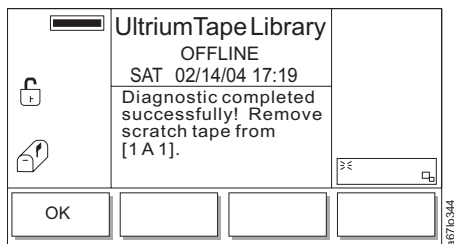

Figure 4-186. Command Now Complete Screen
11. When the tape is returned to the I/O Station, the Command Now Complete Screen displays (see Figure 4-186).